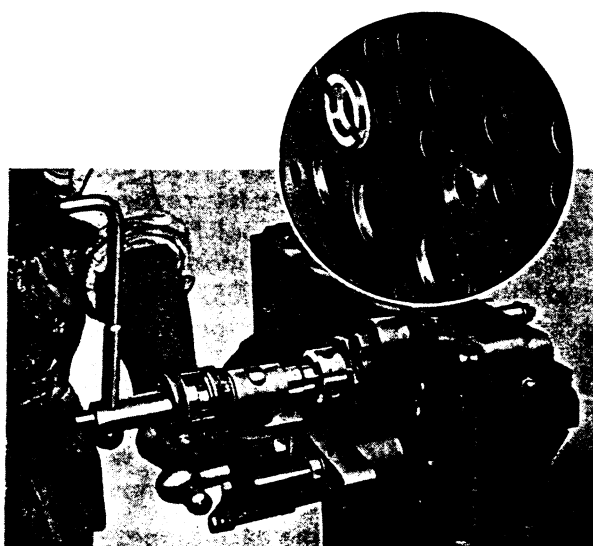

FIG. 121.
5. Proceed to skim off the lugs by rotating the cutting handle, as shown in Fig. 121, using the knurled screw feed, until the bottom face of the chamber is just below the cylinder head face. The actual depth of recess is controlled by the stop on the guide.